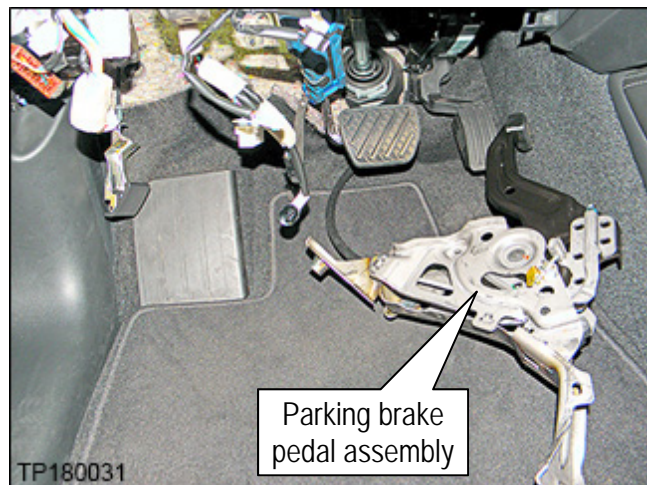

Figure 5
- Remove the parking brake pedal assembly from under the Instrument Panel and lay it on the floor as shown in Figure 5.